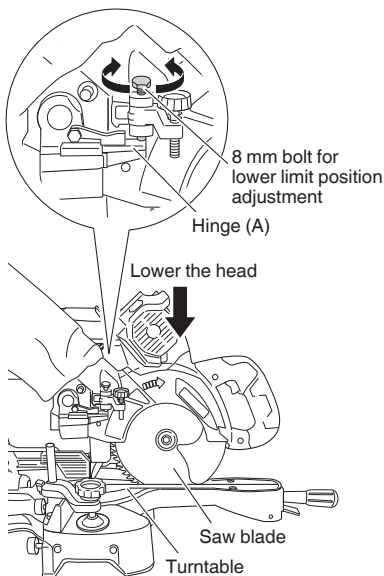

Fig. 29
- (1) Lower the head and push the tip of the 8 mm bolt for lower limit position adjustment against hinge (A). (Fig. 29)
- (2) Turn the 8 mm bolt for lower limit position adjustment with the 13 mm spanner to adjust the lower limit position of the saw blade. (Fig. 29)